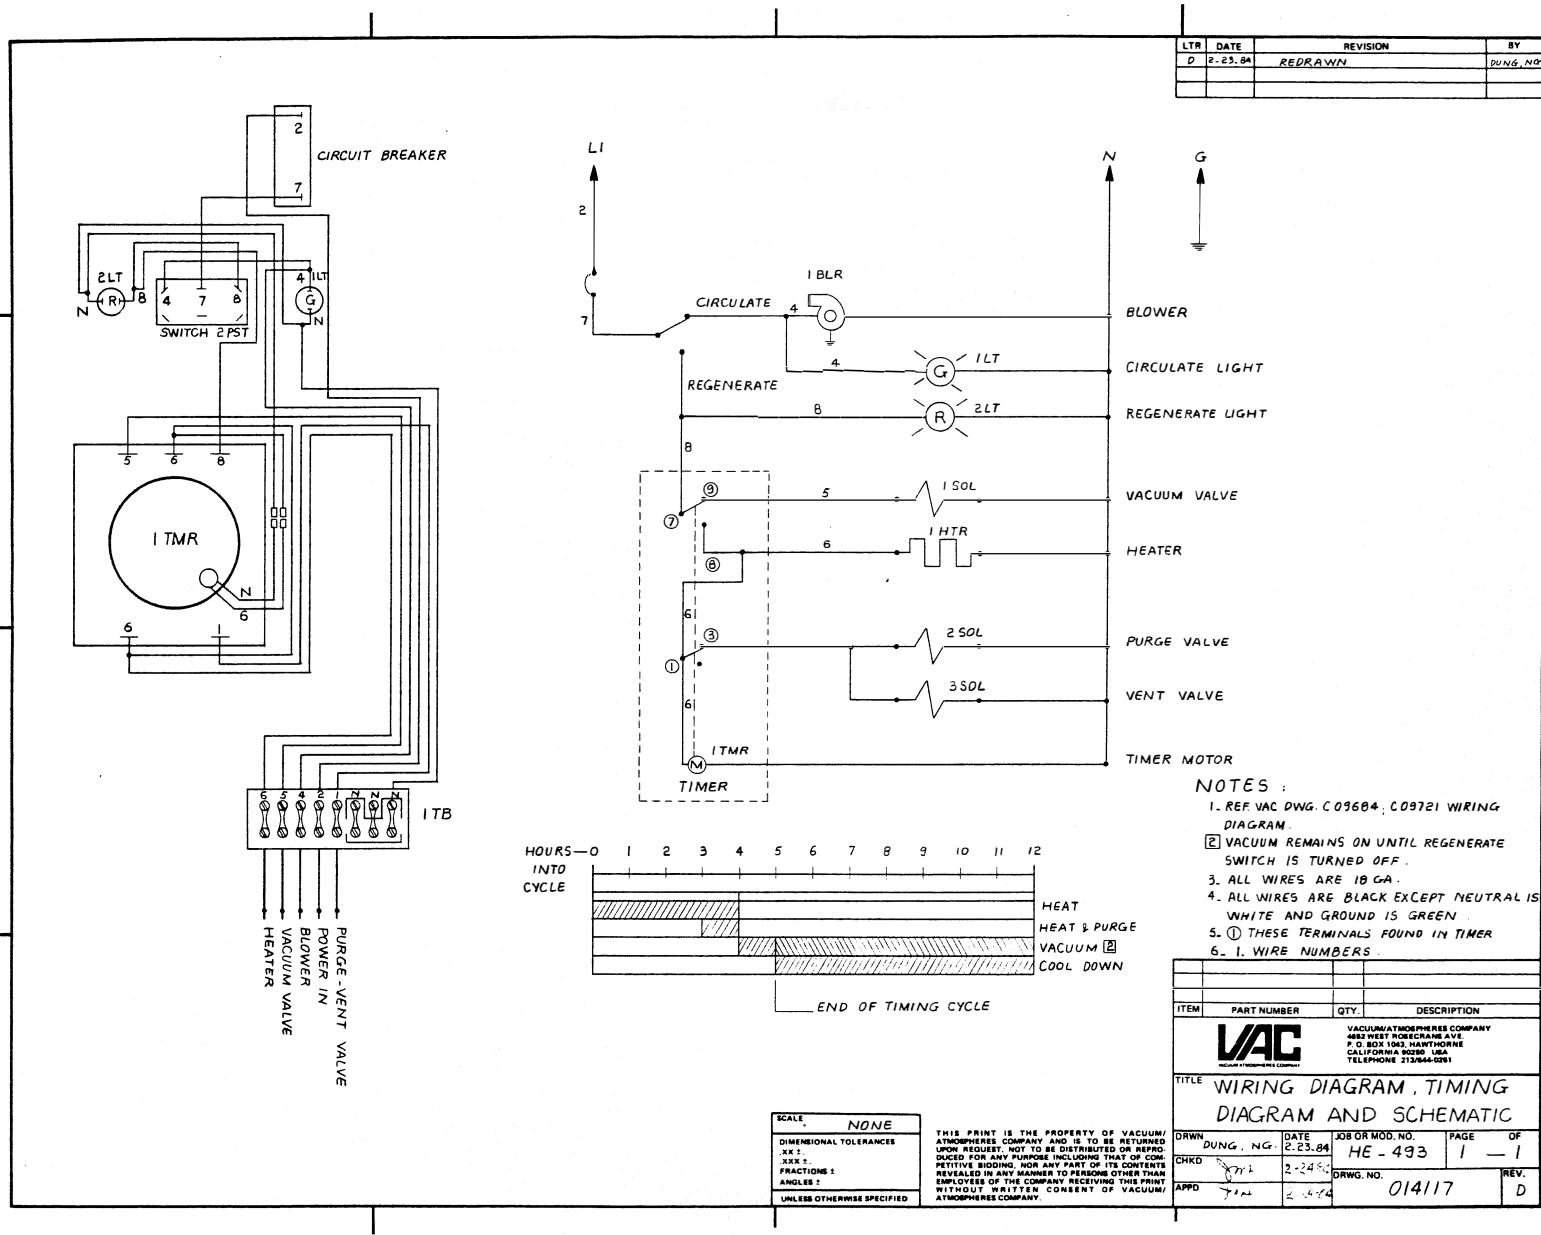

Figure 5-1. Schematic Diagram
Reference to Figure 5-1, the HE-493 Schematic Diagram, provides the necessary information on how to test any given solenoid when so desired. No attempt will be made here to explain the basic procedures normal to tracing the flow of electrical current in the HE-493. This schematic is straightforward, and a basic knowledge of electrical troubleshooting is credited to anyone authorized to attempt any kind of trouble analysis of the HE-493 DRI-TRAIN. Table 5-1 herein provides a list of the valves and those evident symptoms which might logically point to a failure of the valve to energize.
- If voltage is not present at the motor, trace the circuitry to determine the point at which the circuit is broken and repair or replace accordingly. (See Figure 5-1.)